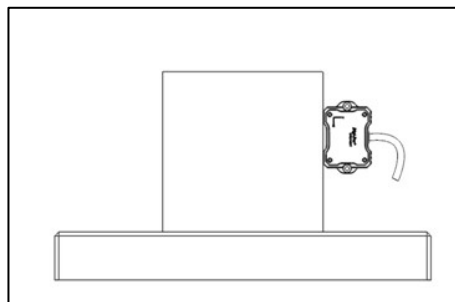
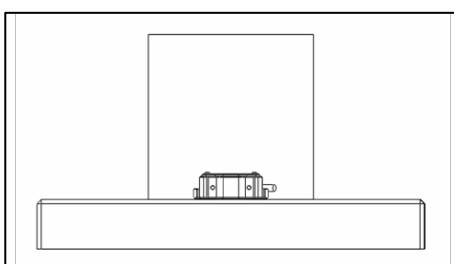

Figure 45. Tilt Sensor Module Position of Calibration Step 3
Figure 50. Tilt Sensor Module Position of Calibration Step 8
10. For **DWL5000XY** model, repeat step 3 to step 8. Please locate the sensor module in following positions (refer to Figure 45 to Figure 50) respectively.